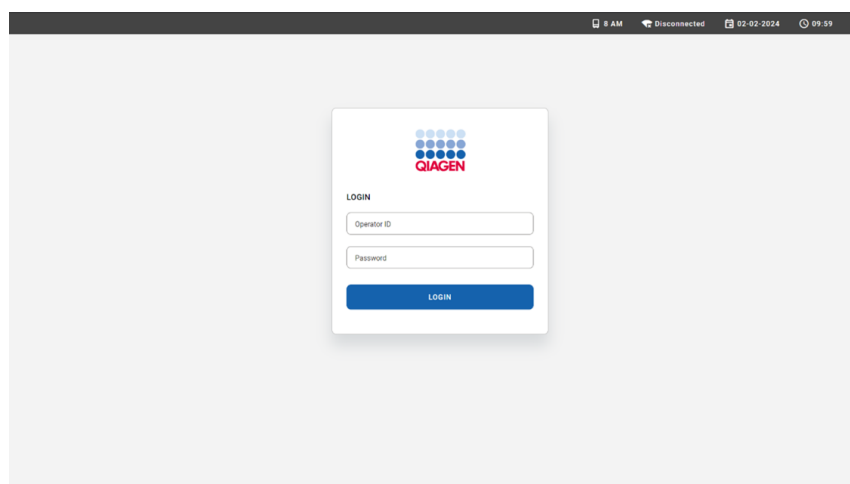

Figure 8. Log in screen.
3. After creating the password, log in to the system once the LOGIN screen appears (Figure 8).